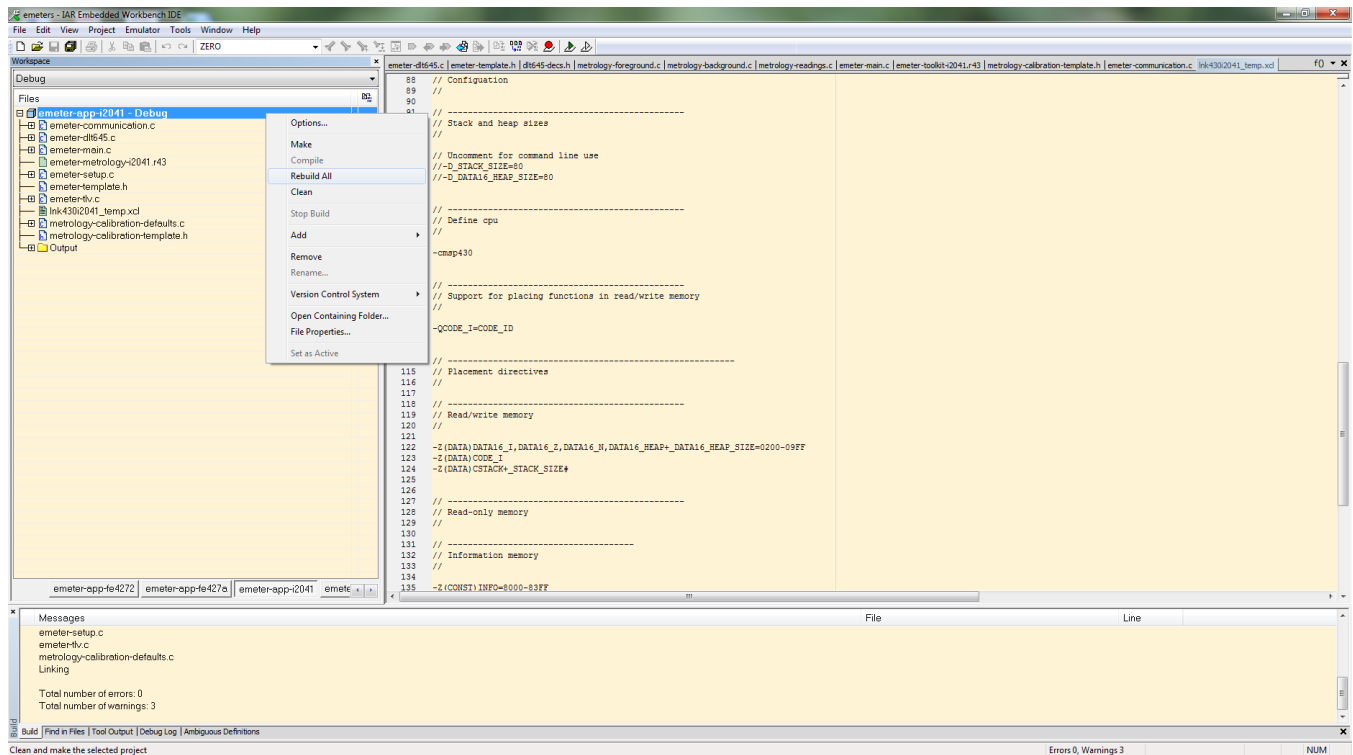
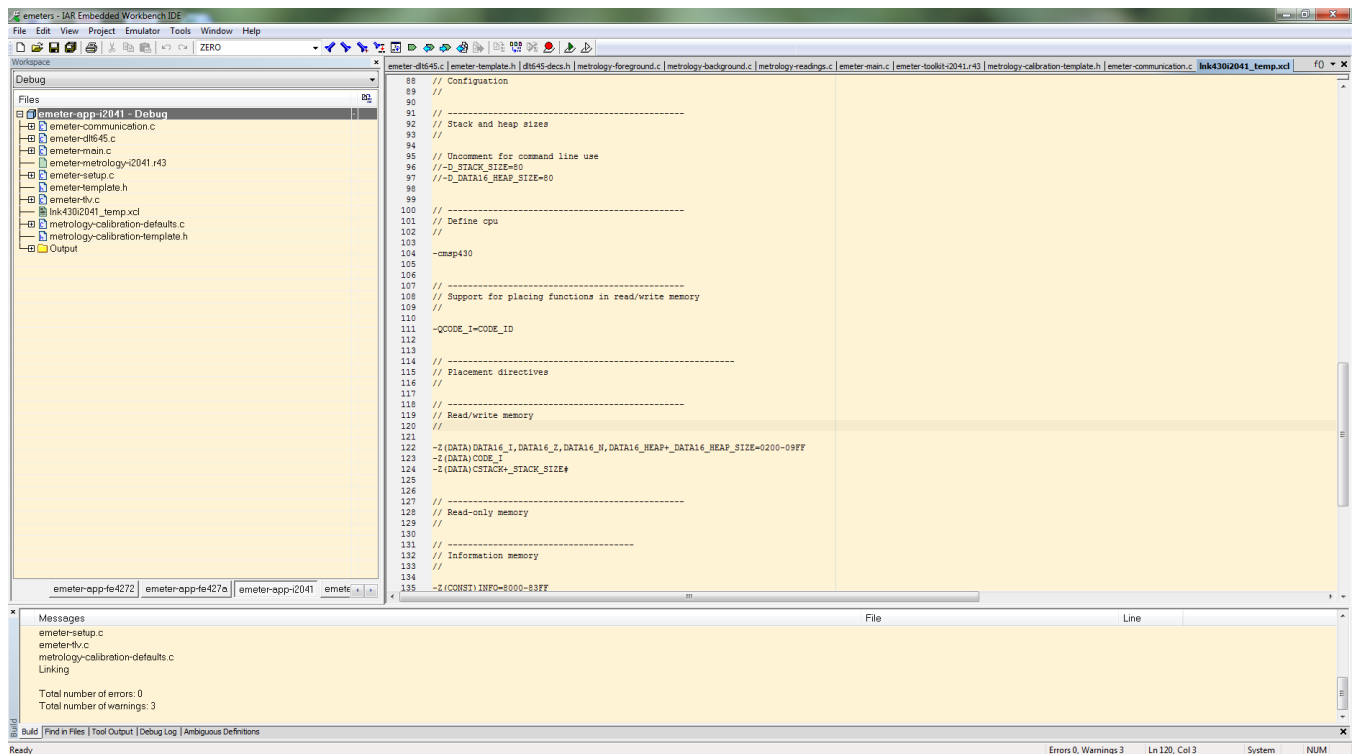

Figure A-5. Compiling the Application
Figure A-6. Warnings
7. Rebuild the project by right clicking on the project and select [Rebuild All] from the pop-up menu (see Figure A-5). Three warnings will be reported during rebuilding (see Figure A-6), it is safe to ignore the three warnings. To open the project workspace, modify the code, compile, and download the code, the user must have IAR Embedded Workbench 5.5 installed with a valid license. If a valid license is not available, the user can still download the object code. See Section A.3 for downloading procedures.